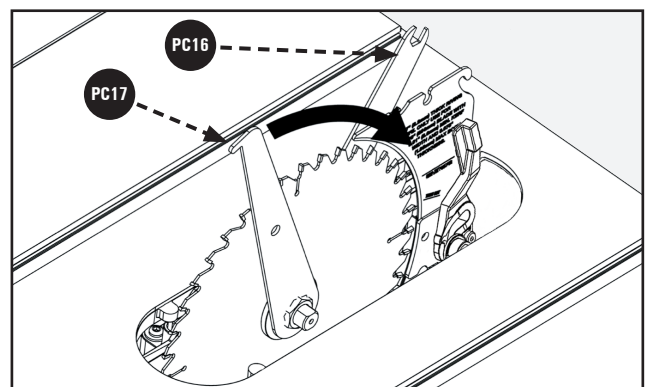

Figure 16
7. Tighten Nut with Blade Wrenches **PC16** and **PC17**. Open End Wrench will fit on the Arbor Shaft between the Inner Flange Washer **D** and the Motor Assembly (if necessary, turn Arbor Shaft to align flats on the Arbor Shaft to the Wrench). Closed End Wrench will fit on the Nut. See Figure 16.